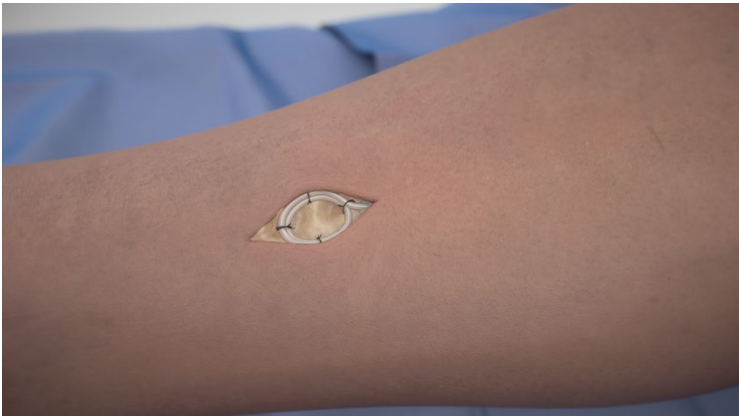

Figure 3
4. Using a non-absorbable suture, suture the receiver coil to the fascia at two locations, ensuring it is flat in the pocket. (Figure 3 & 4)